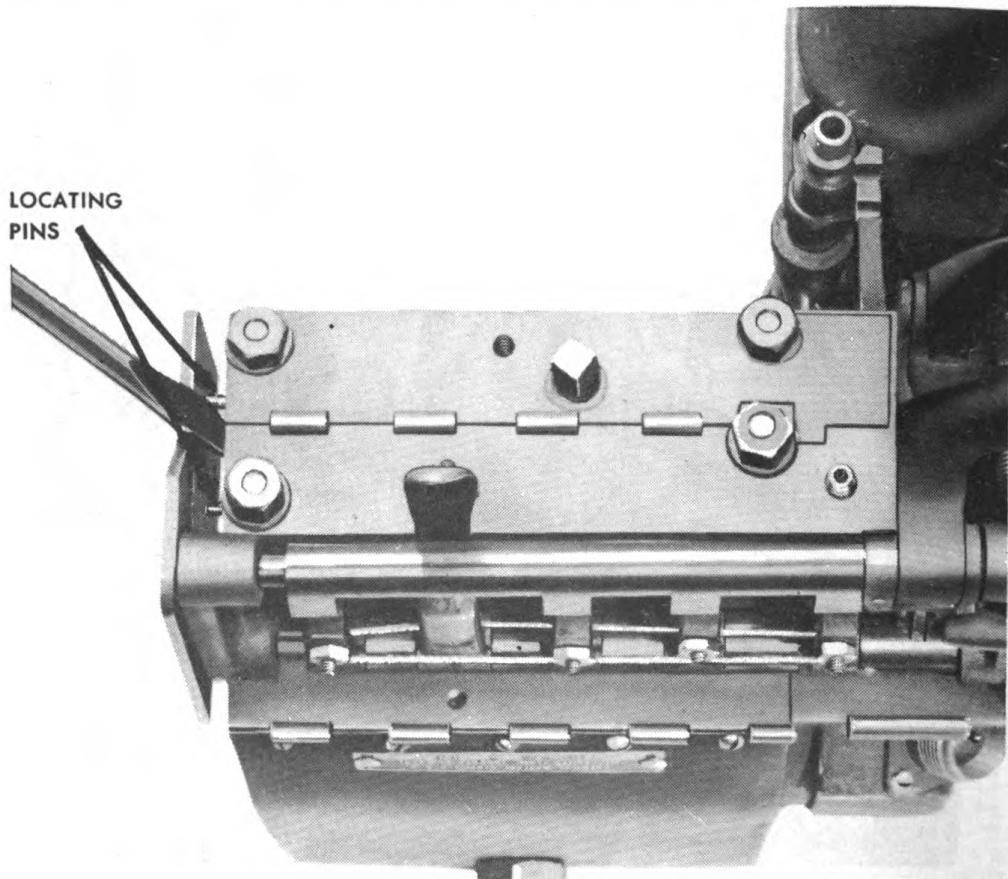

Fig. 104. Prying off end plate.
--Pry off the end plate (fig. 104).